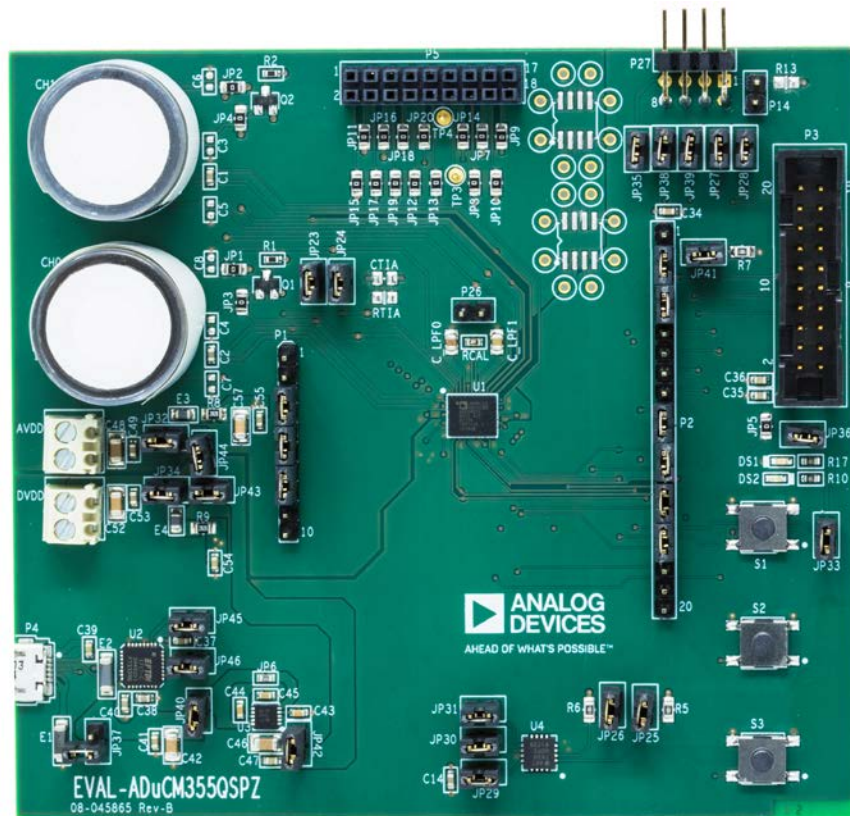
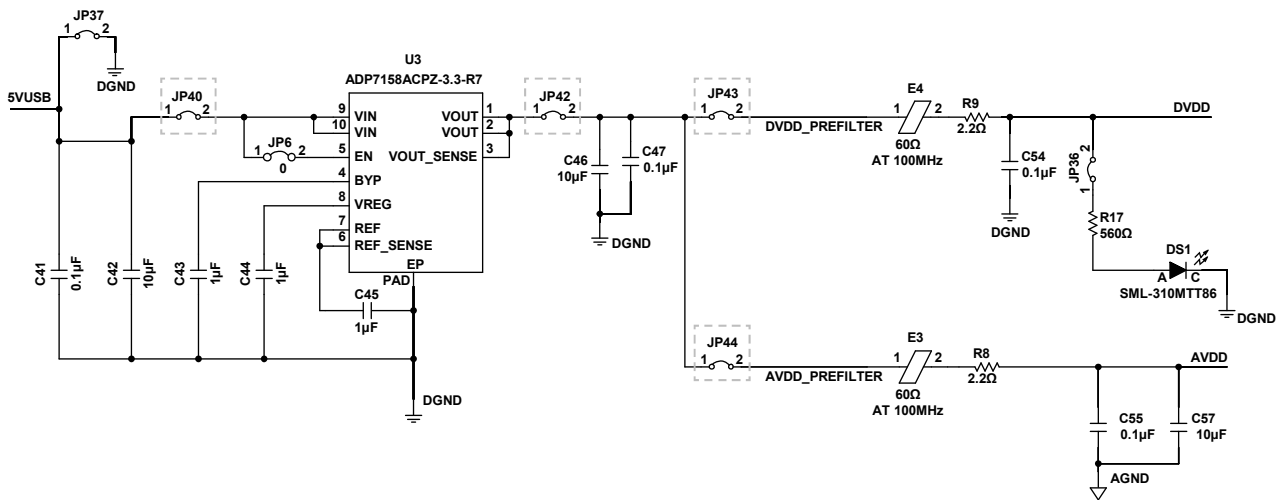

Figure 1. **ADuCM355** Evaluation Board
Figure 4. Schematic Section Showing Key Jumpers Around LDO and Power Supply
- JP45 and JP46 connect the UART pins from the ADuCM355 to the UART-USB transceiver chip (U2) (see Figure 1 and Figure 2).
- JP40 connects the 5 V USB supply to the input of the LDO (U3) (see Figure 1, Figure 3, and Figure 4).
- JP42 connects the LDO output (3.3 V) to the board power supply filters (see Figure 1, Figure 3, and Figure 4).
- JP43 and JP44 connect the DVDD rail to filters for the AVDD\_DD and AVDD analog supplies to the ADuCM355 (see Figure 1, Figure 3, and Figure 4).